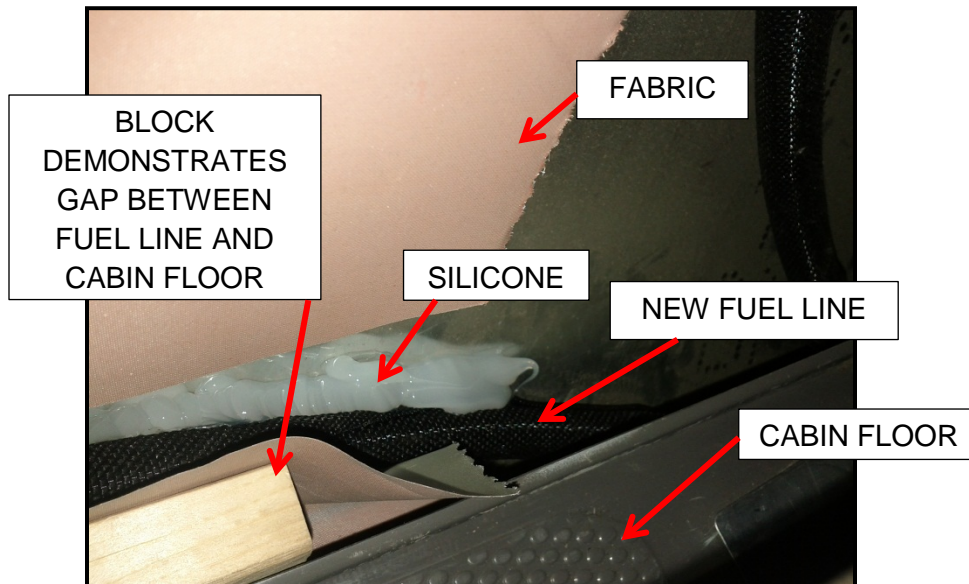

FIGURE 26 – Silicone Sealant
- 64. Some aircraft will have fabric extending forward of the boot cowl spacer (shown in Figure 26). If so, it will be necessary to cut a small slit in that section of fabric to allow the new drain line to pass well clear of the cabin floor edge.